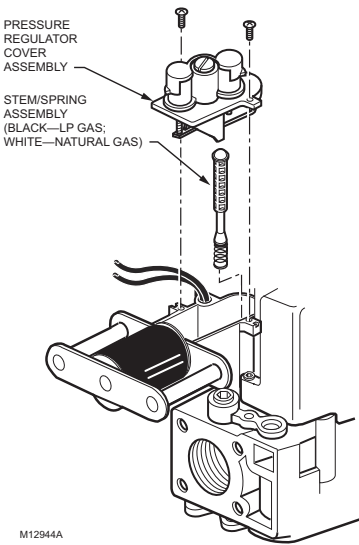

Fig. 1. Installing the conversion kit.
2. Remove the pressure regulator cover assembly. Refer to Fig. 1.